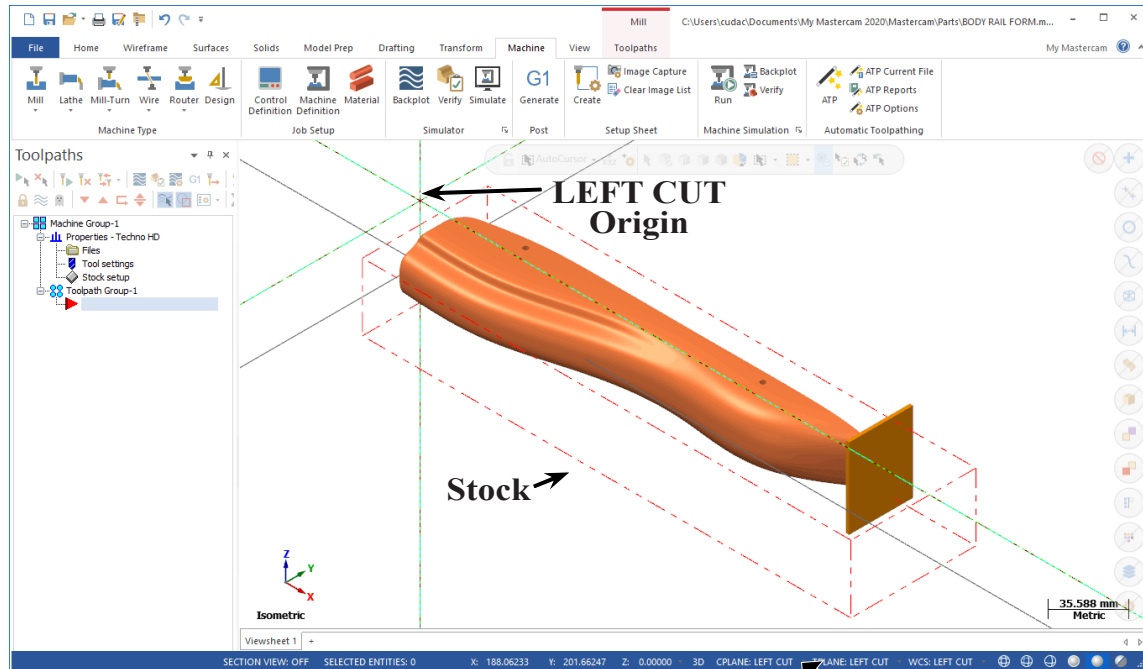

Fig. 3
Step 1. The Stock is displayed as red wireframe, Fig. 3.
Step 2. In Status bar at bottom of display, confirm **CPLANE:LEFT CUT**, Fig. 3.